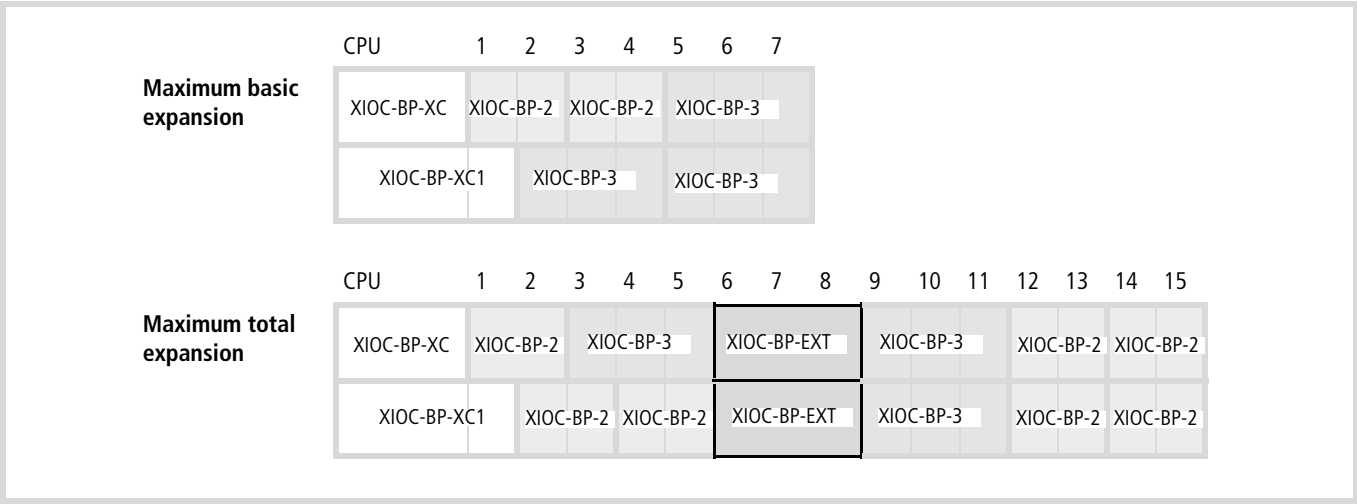

Figure 4: Maximum expansion of the I/O modules without and with XI/OC bus expansion
As a rule, the first backplane, which is used to take the XC-CPU100/200 CPU type is a basic backplane. You can add on several expansion backplanes to the right side. The backplanes must be arranged so that one CPU module for basic expansion and a maximum of seven XI/OC signal modules can be planned (→ fig. 4).
Through the use of bus expansion, you can add further backplanes consisting of CPU and 5, 6 or 7 I/O modules to the basic expansion. The bus expansion has the same design and the same dimensions as the XIOC-BP-3 expansion backplane. However, it is equipped with additional components for amplification of the bus signals. The arrangement of the bus expansion with the basic expansion is fixed (→ fig. 4). The maximum expansion stage can accept 15 XIOC I/O modules.
- If you wish to expand existing basic expansion with 6 or 7 I/O modules, you will need to replace an existing rack (backplane) (XIOC-BP-2/XIOC-BP-3) by a bus expansion (XIOC-BP-EXT). The bus expansion may only be positioned at the position indicated in Figure4.